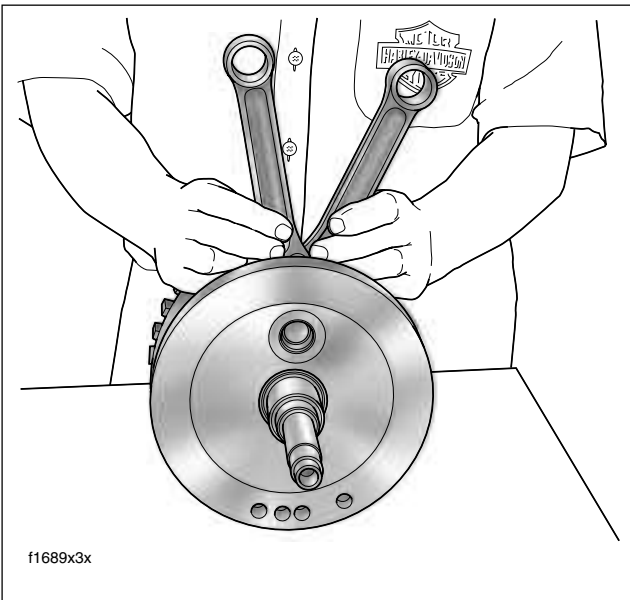

Figure 3-132. Check Connecting Rod Bearing Clearance
2. Orient the assembly as shown in Figure 3-132. Holding the shank of each rod just above the bearing bore, pull up and down on the connecting rods. Any discernable up and down movement indicates excessive lower bearing clearance. Replace the flywheel/connecting rod assembly.